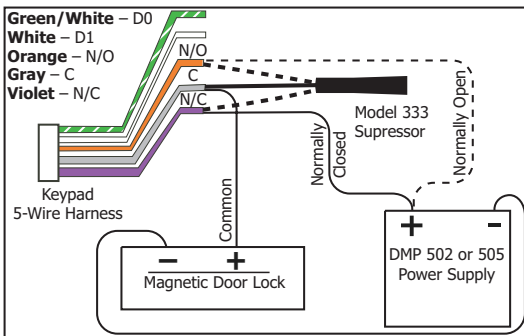

Figure 3: 5-wire Harness/Suppressor Installation
One Model 333 Suppressor is included with the 7073/7073A and 793 keypads. Refer to Figure 3 and install the suppressor across the 5-wire output/reader harness Common (C) and Normally Open (N/O) or Normally Closed (N/C). If the device being controlled by the relay is connected to the N/O and C wires, install the suppressor on the N/O and C wires. If the device is connected to the N/C and C wires, install the 333 Suppressor on N/C and C wires.